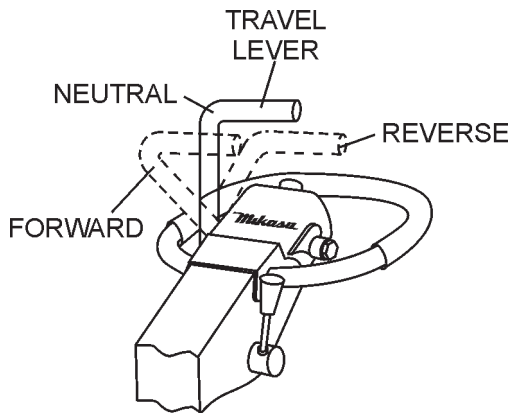

Figure 22. Travel Lever
3. To make the compactor move in the forward direction push the travel lever (Figure 22) forward.
4. To make the compactor move in the reverse direction pull the travel lever (Figure 22) backwards.